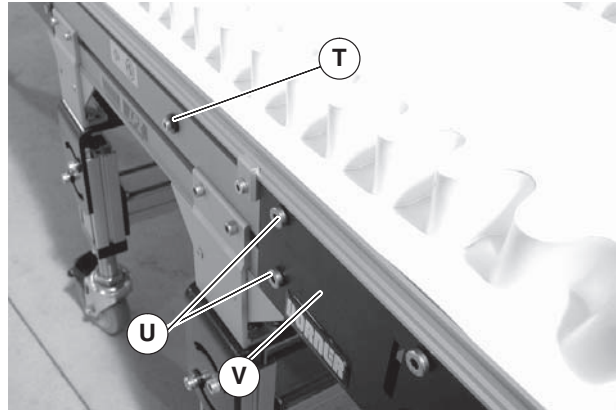
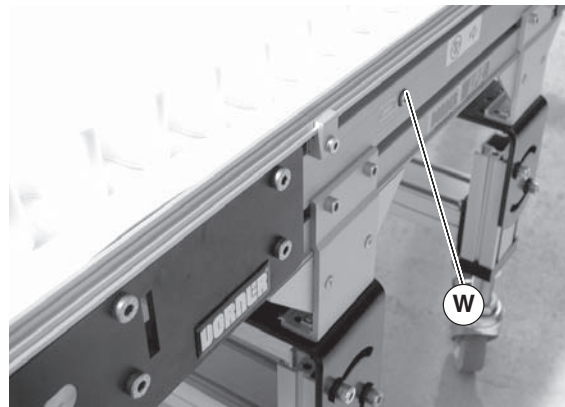

Figure 22
Figure 23
- On tension end of the conveyor, identified by the pinion locking screw (Figure 22, item T), push in head plate assembly (V): Loosen the pinion locking screw (T), adjust the pinion torque screw (Figure 23, item W). On both sides of conveyor, loosen the two tail clamp bolts (Figure 22, item U), and push head plate assembly (V) inward.